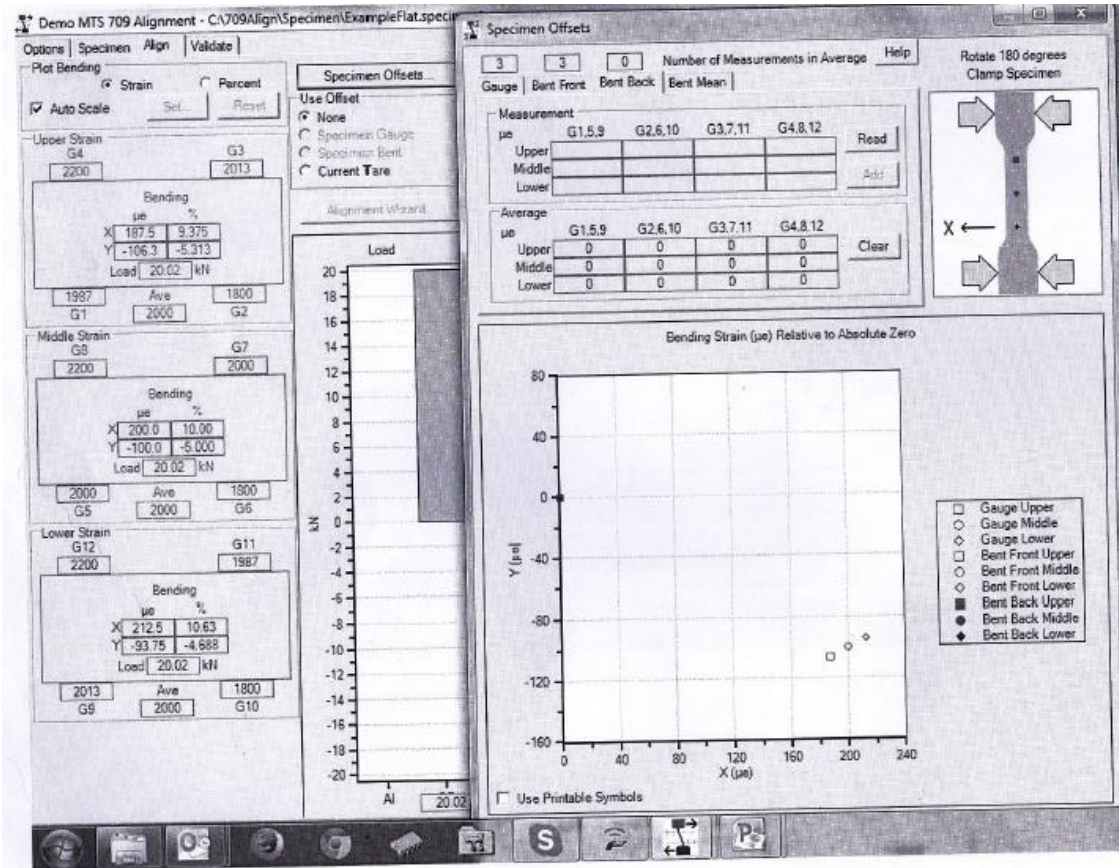

Figure 6: Bend Back Tab Procedure
- l) Click on Bend Back tab as shown in Figure 6. The alignment specimen still installed.
- m) Click on read then add. Open and close upper grip only. Click read then add. Open and close upper grip again. Click read then add. Repeat it another two (2) times.